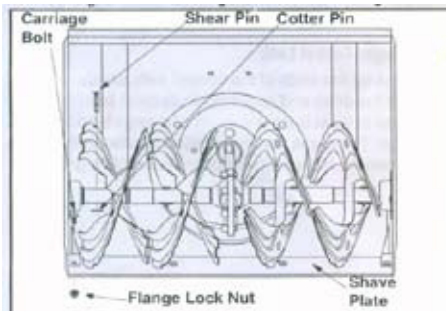

FIG.16
- The augers are secured to the spiral shaft with two shear pins and cotter pins. If you hit a hard foreign object or ice jam, the snowthrower is designed so that the pins may shear. Refer to figure 16.
- To remove skid shoes, remove four carriage bolts and flange lock nuts. (See fig. 16)